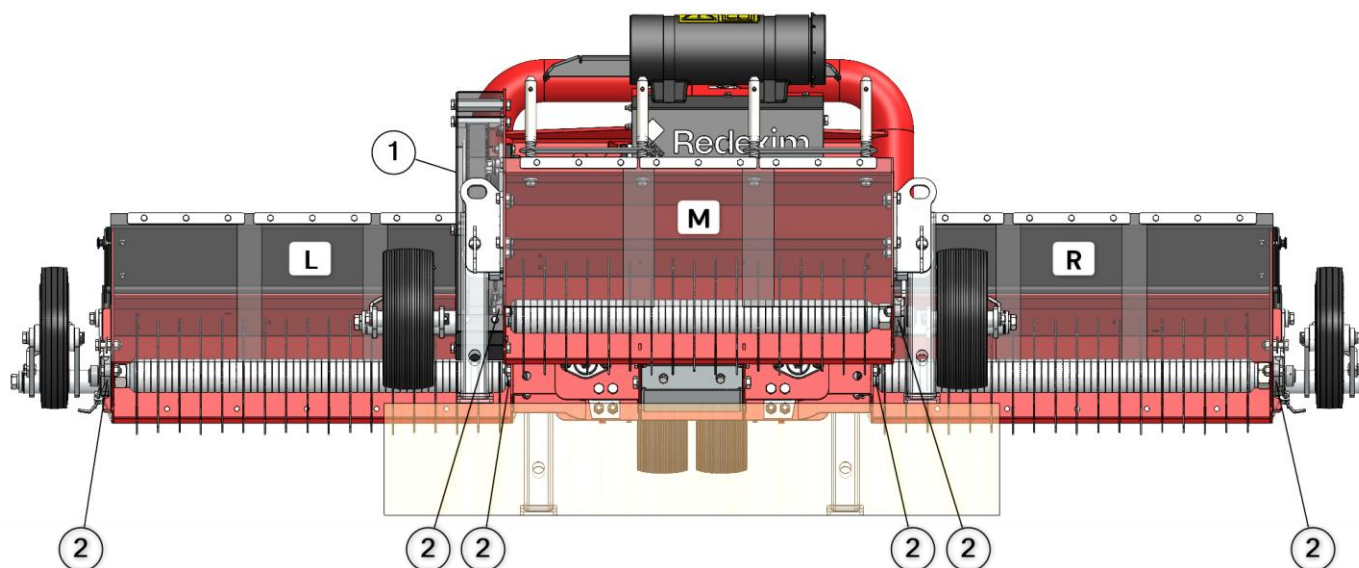
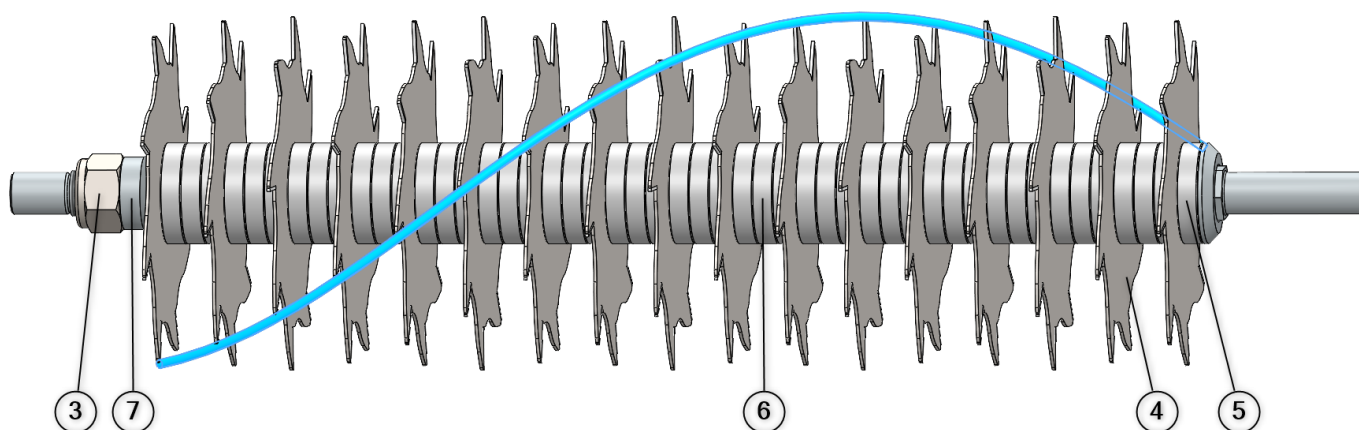
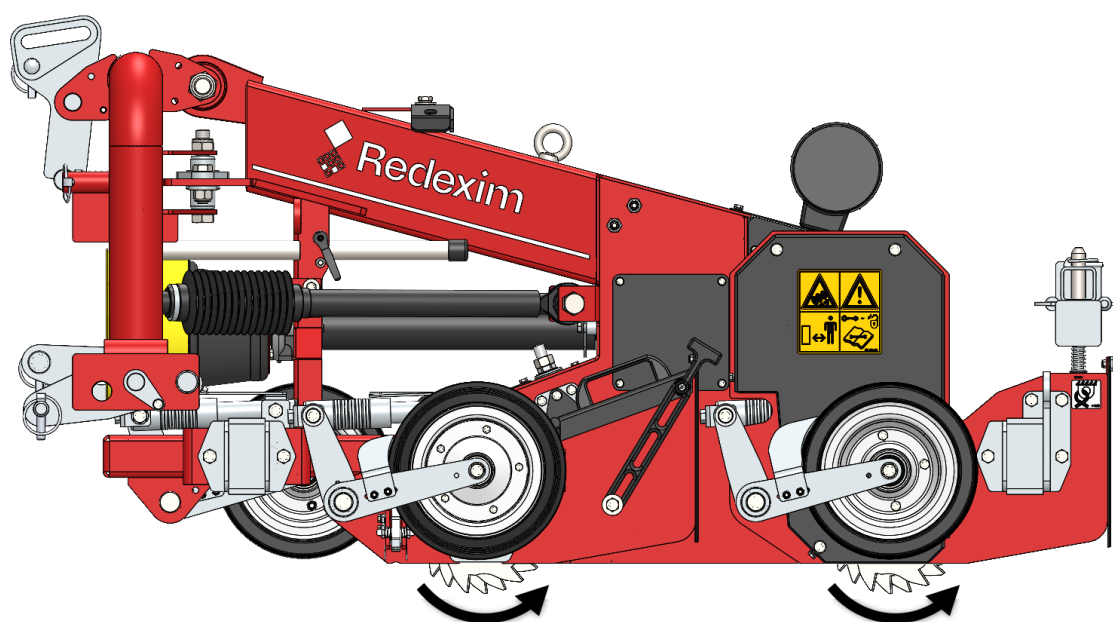

Fig. 19
Fig. 20
Fig. 21
3. See Fig. 19. Remove the protective covers (1), loosen the timing belt and remove it (only the centre section).
4. Loosen the bolts on the bearing blocks (2) for each rotor and carefully remove the rotors. Remember which rotor belongs where or mark them accordingly.
5. See Fig. 20. Loosen the nut (3) from the shaft. To do this, secure the key at the other end. Use a tool for this, such as a profiled socket, to ensure the shaft remains undamaged.
11. Slide the bearing blocks (2) back onto the rotor shafts and fit the rotors in the correct position.
12. Align the rotors relative to one another to ensure the correct blade spacing, then tighten the ring on the bearing block (2).
13. Check that all blades are facing the correct direction, see Fig. 21.
15. Fit the protective covers (1).